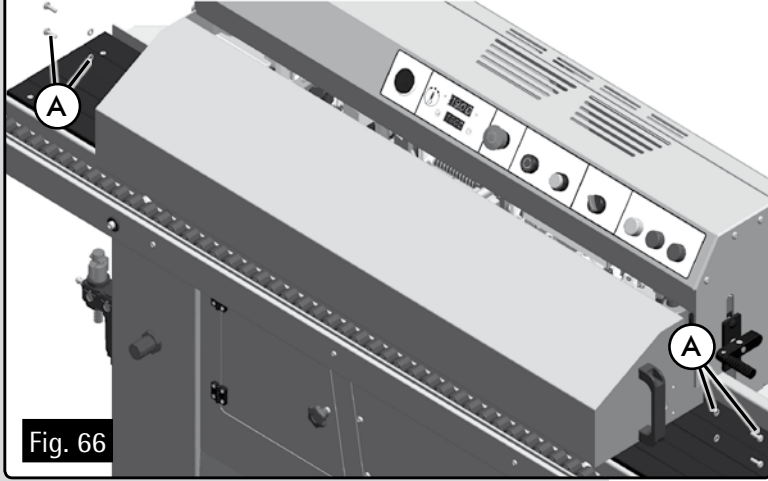
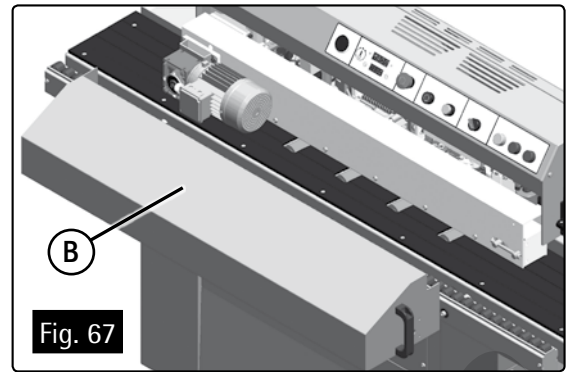

Fig. 66
Fig. 67
- Remove the screws and washers A (Fig. 66).
- Remove the cover B (Fig. 67) and open the feeder.
- Remount cover B (Fig. 67), using screws A (Fig. 66).